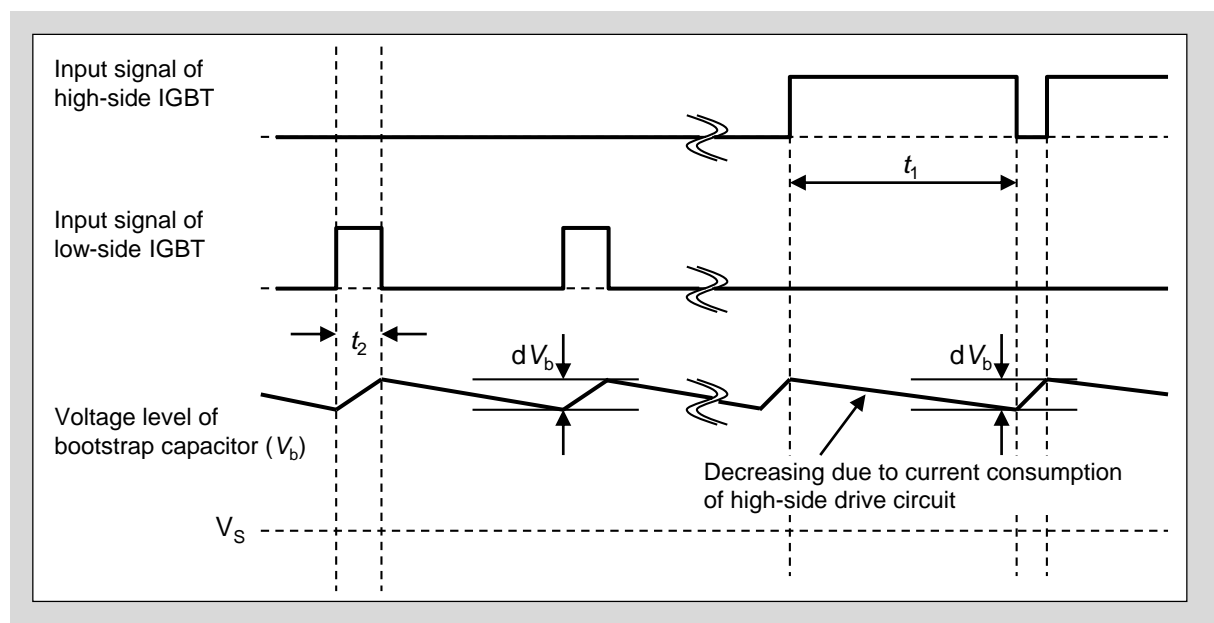

Fig.3-10 Timing chart of charging and discharging operation
dV_b : Allowable discharge voltage. (see Fig.3-10)
- In the operation mode in which the high-side IGBT performs switching operation and charges when the low-side FWD is turned-on (timing chart in Fig. 3-10), the time constant is set so that the power consumed during the ON period of the high-side IGBT can be recharged during the OFF period.